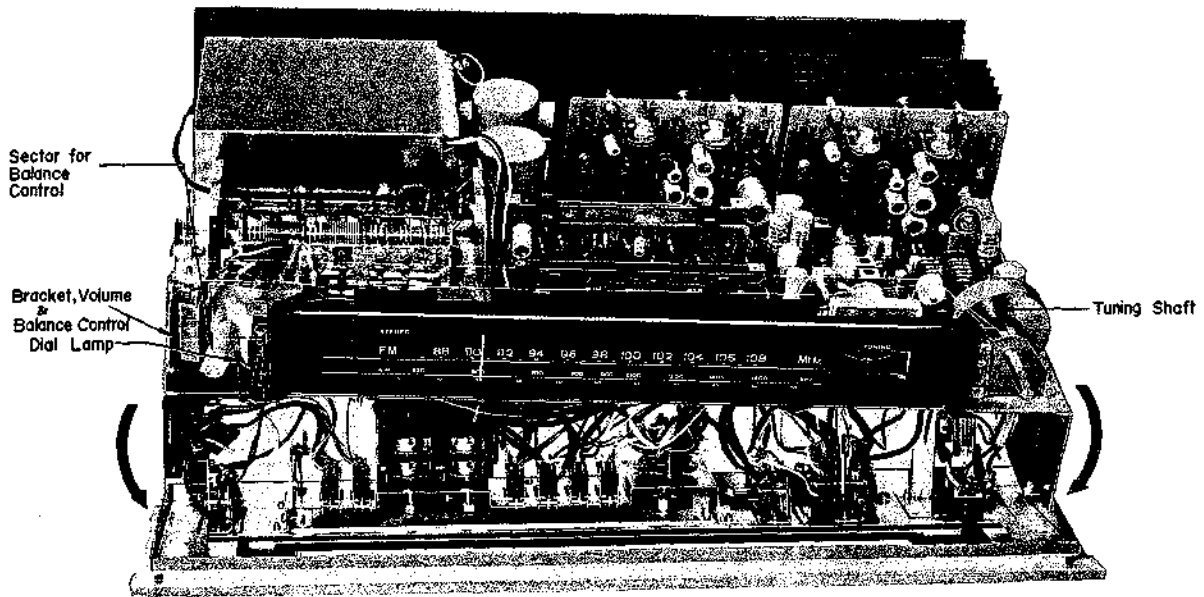

Fig. 2-5
- (d) The Front Panel Assembly is now free, and can be tilted forward and down as shown in Fig. 2-5. Place protective pads under the Front Panel to keep it from being scratched.